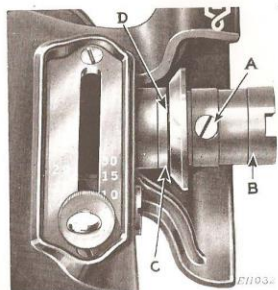

FIG. 33. ADJUSTMENT FOR SHAFT END PLAY
machine leaves the factory. In case this adjustment has been disturbed, remove the balance wheel from the machine to uncover the balance wheel bushing (B, Fig. 33). Loosen screw (A, Fig. 33) and move the balance wheel bushing (B) slightly away from the arm shaft bronze bushing (C, Fig. 33), as indicated by (D, Fig. 33). Then insert at (D) an ordinary sheet of note paper and bring balance wheel bushing (B) back against the paper, thus providing the necessary end play. Tighten screw (A), remove the sheet of paper and replace the balance wheel.